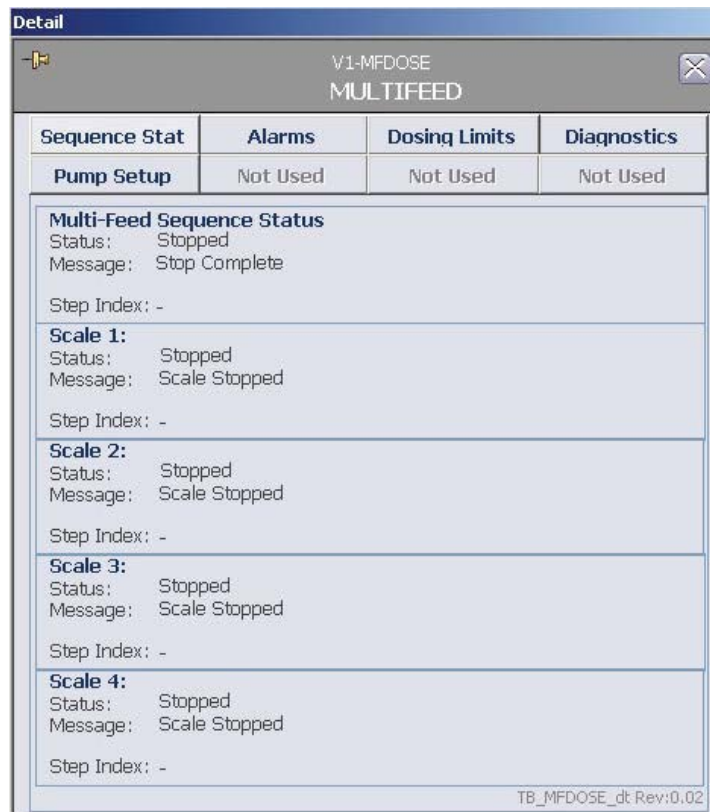

Figure 4.49. MultiFeed menu.
2. On the faceplate, click **Detail** to open the MultiFeed menu (Figure 4.49). Dose limits, alarms, and status checking can be done from this menu.